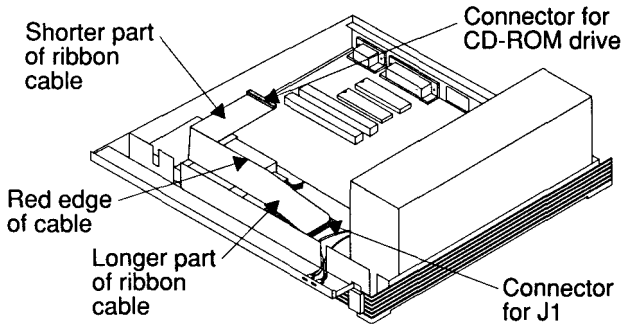

Figure 3 The CD-ROM data connector (step 9)
- 9 Find the remaining ribbon cable supplied with the upgrade, and connect it to the row of pins on the IDE interface labelled J1, referring to *Figure 3* below to help you: